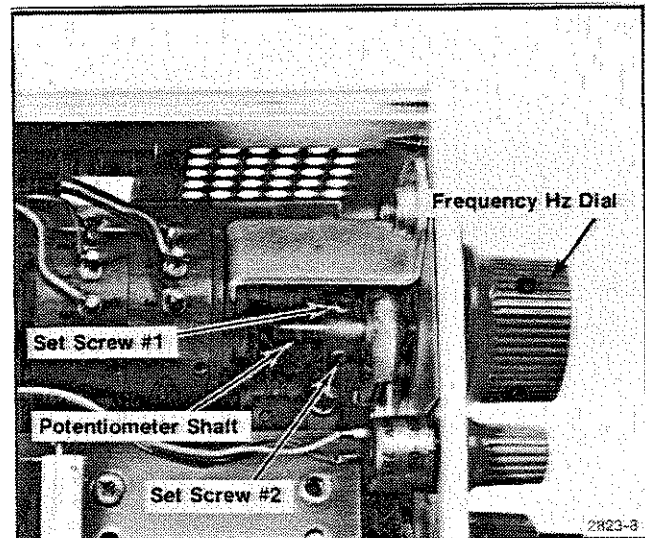

Fig. 4-5. Left side view of SG 505.
c. CHECK/ADJUST—the SG 505 frequency for 4,000 kHz as follows: Loosen internal set screw #1 located on the reduction drive shaft of the FREQUENCY Hz potentiometer assembly R530 and R520 (see Fig. 4-5). Position the FREQUENCY Hz dial to 4. Loosen set screw #2 and turn the potentiometer shaft with pliers until the counter reading is 4,000 kHz. Tighten set screw #2 without moving the FREQUENCY Hz dial. Turn the FREQUENCY Hz dial to gain access to set screw #1 and tighten.